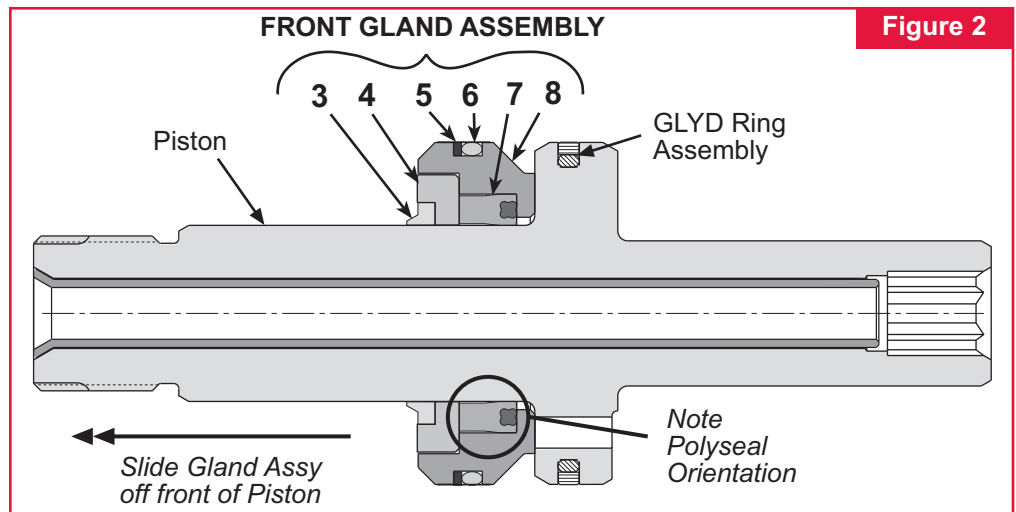

Figure 2
12. Slide Front Gland (8) off of Piston (1) and remove Front Wiper (3), Front Wiper Housing (4), Back-up Ring (5), O-Ring (6) and Polyseal (7) (Fig. 2).
13. Remove GLYD Ring (13) from Piston (4)(Fig. 2).
4. Press Front Wiper (3) into groove on Wiper Housing.
5. Install O-Ring (6) and Back-up Ring (5) on Front Gland. (For Front Gland Assembly detail, see Fig. 2.)